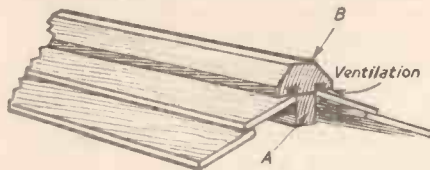

Fig. 8.—Planking the roof.
For the roof 6ft. 4in. lengths of weatherboarding should be used; they overlap 2in. at each end of the shed. When laying the first plank (Fig. 8), leave it about 1/2in. away from the tie (A). To prevent the roof from leaking at this point a piece (B) is firmly nailed along the ridge. Grooves are cut along the whole length with a rabbeting plane, to prevent drips running in. The whole purpose of this arrangement is good ventilation.